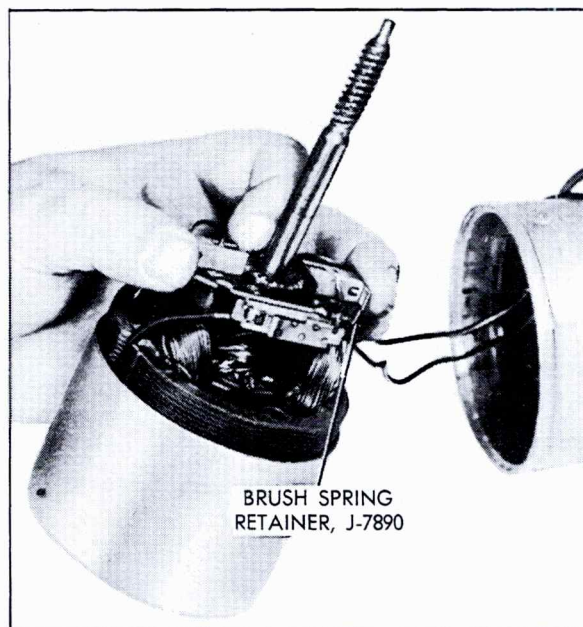

Fig. 12-21 Separating Brush Plate
8. Holding the brush opposite from that retained in step 7, carefully lift the brush plate off the mounting legs far enough to clear the armature commutator, Fig. 12-21.